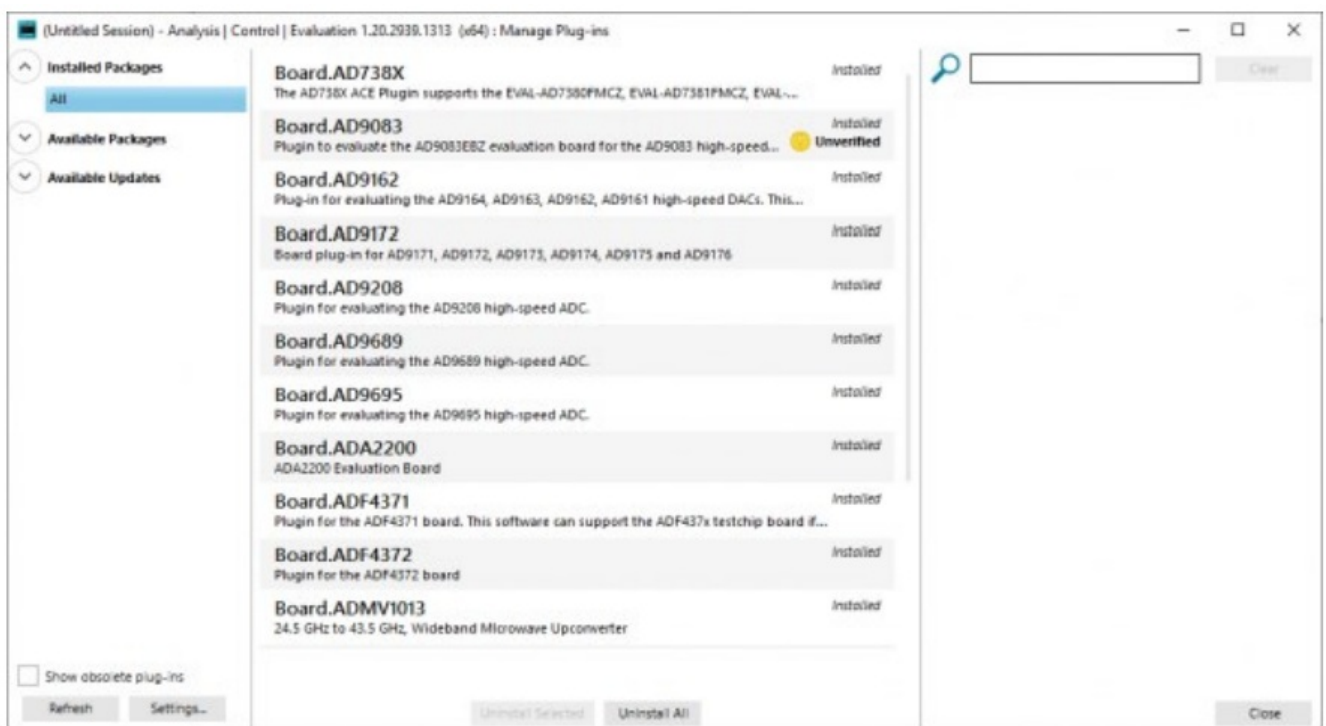

Figure 3. ACE Manage Plug-ins Window
- When the user opens the ACE software, the plugin appears in the Attached Hardware section of the ACE GUI (see Figure 3).